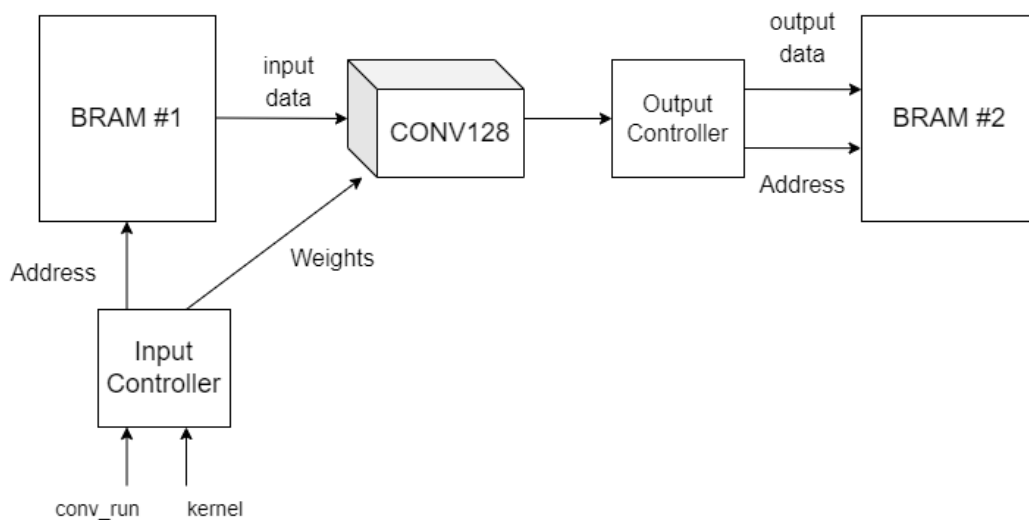

Figure 1: Top level schematic of the image processing system.
The image processing system with the top level schematic given at **Figure 1** will be realized in the scope of this experiment. Each submodule will be designed separately and connected together using the **Block Design**.
- When all submodule designs are completed, the system must be gathered up in a top level module as seen at Figure 1. Create a new Verilog source file named “TOP.v” and instantiate all the blocks seen at Figure 1.